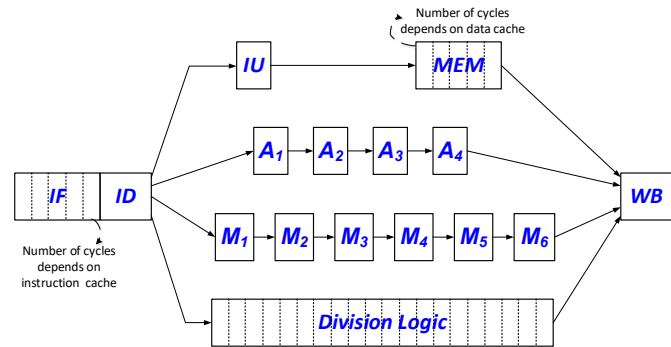

Figure 2: An example configuration for the execution stage
CPU: The MIPS computer employs a multi-stage pipeline processor in order to dynamically schedule instruction execution. There are generally **four stages in the pipeline**, namely, Instruction fetch (IF), instruction decoding and operand reading (ID), Execution (EX), and Write back (WB). **The EX stage include both the ALU and data memory (MEM) access stages.** There are four distinct ALU units for: **one Integer arithmetic, one FP add/subtract, one FP multiplication, and one FP division.** The integer unit (IU) **always takes one cycle for the execution.** The specification of whether the individual FP units are pipelined or not, as well as the latency of each unit are to be provided in an input file with the name “config.txt”. An example configuration is shown in Figure 2, where both the FP adder and multiplier are pipelined, tacking 4 and 6 cycles, respectively. The FP division is not pipelined and needs 20 cycles to complete. Note that the number of cycles for the instruction fetch (IF) and data access (MEM) stages depends on the cache performance, e.g. miss or hit. For load and store instructions, the address is calculated by IU before the data cache is accessed. Meanwhile for the integer instructions, e.g., DADD, the instruction will spend only 1 cycle MEM stage, before advancing WB stage.